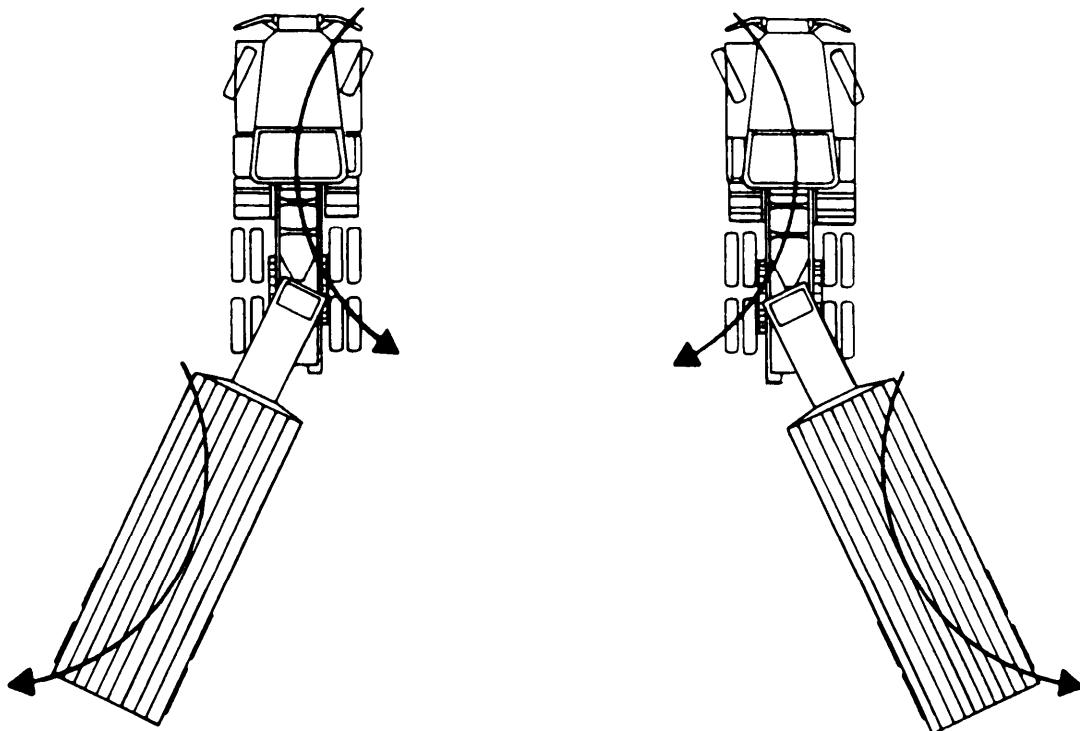

Figure 2-21. Backing
(5) Backing. When backing, use an assistant as a ground guide to direct you. Adjust rear view mirrors before backing. When backing, the rear of the semitrailer will move in the opposite direction from the front towing vehicle wheels. If the wheels are turned to the right, the semitrailer will go left. If the wheels are turned to the left, the semitrailer will go to the right (fig. 2-21).